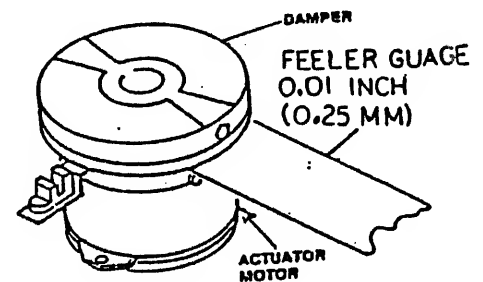

Figure 3-33
6. Tighten set screw rotate 90° and tighten second set screw. (See Figure 3-33).